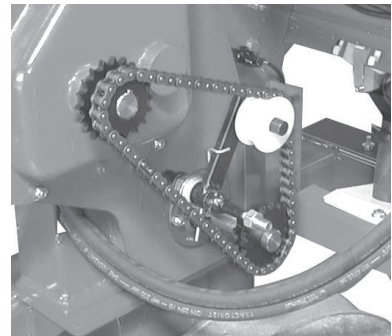

fig 8
**This is the standard setting as supplied ex the factory.** (Referred to as the **High Speed Setting**). Refer Fig 8 and to P20, Fig 17.